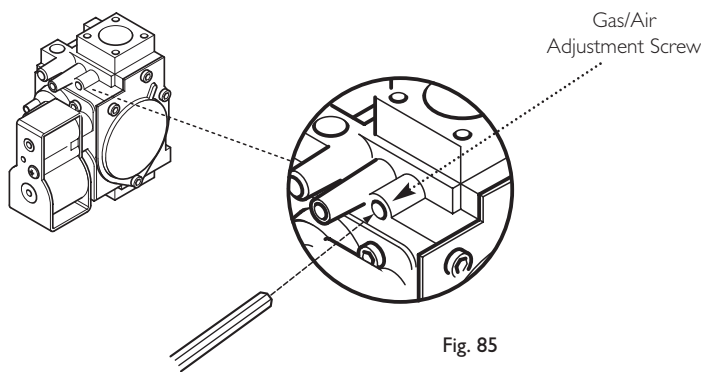

Fig. 85
**NOTE:** To assist the boiler to light prior to final setting, use a suitable hexagon key to wind out the Gas/Air adjustment screw until it is flush with the valve body, then turn the screw 4 full turns clockwise (Fig. 85). If the boiler will not light, or the correct CO2 cannot be achieved contact the 'heateam' technical helpline.